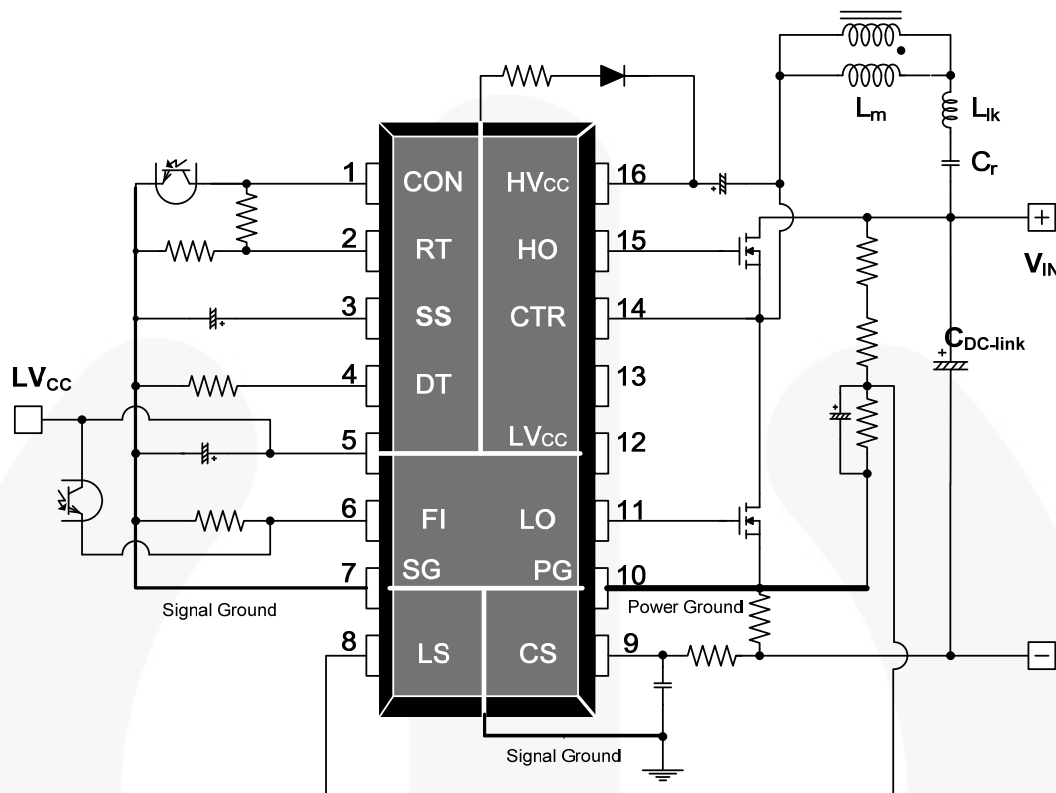

Figure 43. PCB Layout Guideline
Figure 43 shows the PCB layout guideline to minimize the usage of jumpers. Good PCB layout improves power system efficiency and reliability and minimizes EMI. The Power Ground (PG) and Signal Ground (SG) should meet at a single point. Jumpers should be avoided, especially for the ground trace.